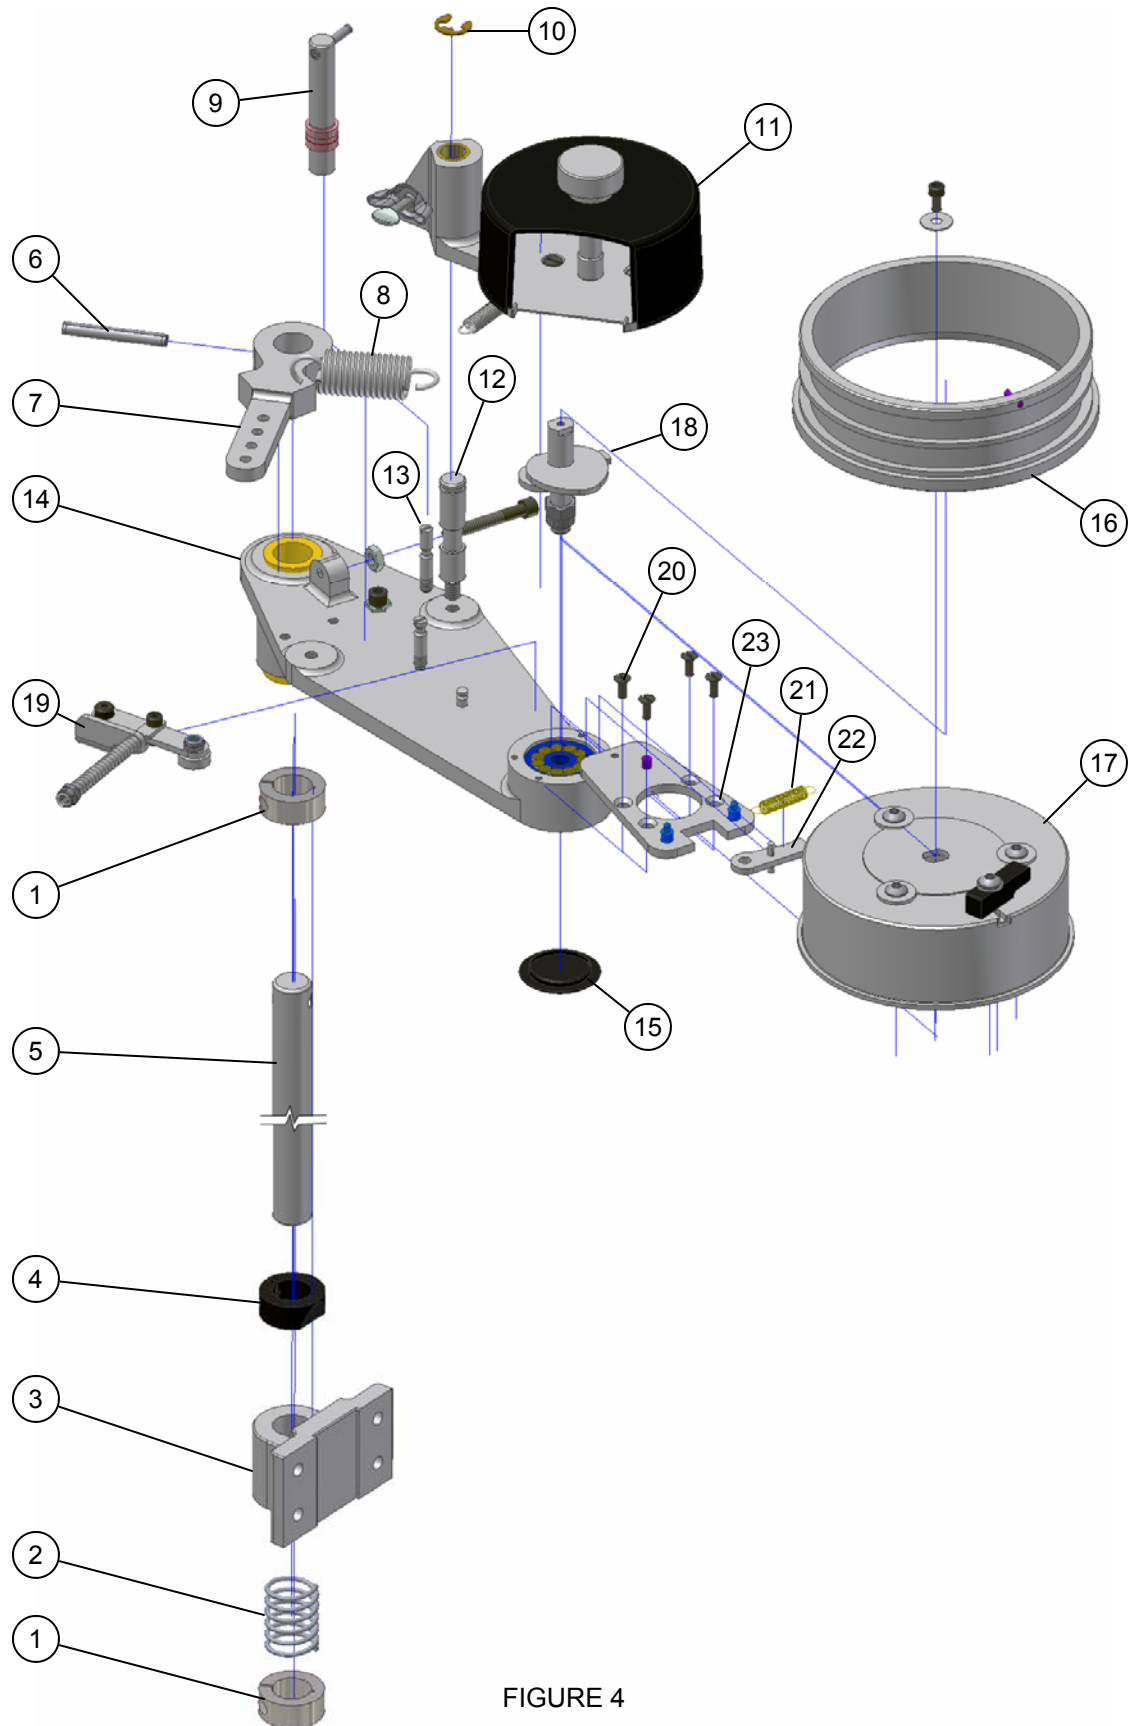

FIGURE 4
1. To change type, cartridge, or for service, move the unit away from the carton flow. A quick and simple means is provided in the unit's design as follows (see figure 4). Grasp the Base Plate (#14) at the mounting end and lift upward away from the mounting bracket assembly (#3) until the collar (#4) is clear of the locating pin. Swivel the unit until clear of carton flow. The unit can now be serviced as needed. Return the unit to its original position with the locating pin resealed into the groove of the collar. The unit is now in its original print position.
FOR ILLUSTRATION PURPOSES ONLY. REFER TO FIGURE 4 FOR PARTS BREAKDOWN OF ITEMS REQUIRED.